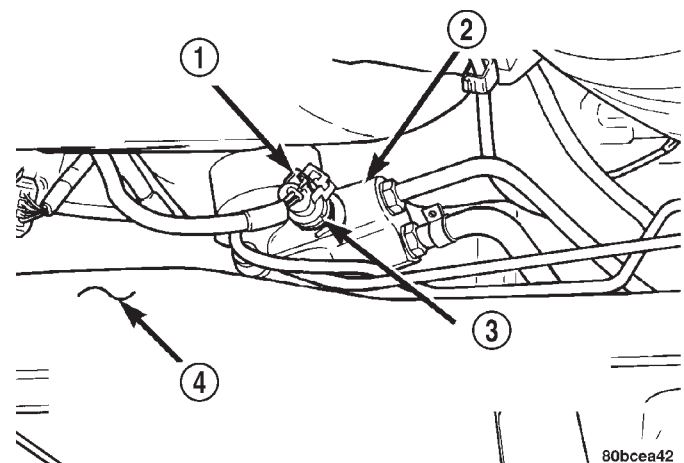

Fig. 23 Power Steering Fluid Pressure Switch
(4) Release the locking tab on the wiring harness connector for the power steering fluid pressure switch before connector removal. Remove the wiring harness connector from the power steering fluid pressure switch (Fig. 23).
(7) Reconnect the wiring harness connector to the power steering fluid pressure switch (Fig. 23). Be sure the locking tab on the wiring harness connector is securely latched.
(8) Lower the vehicle to ground level.
(9) Install the dash-to-lower coupling seal in place over the lower coupling's plastic collar.